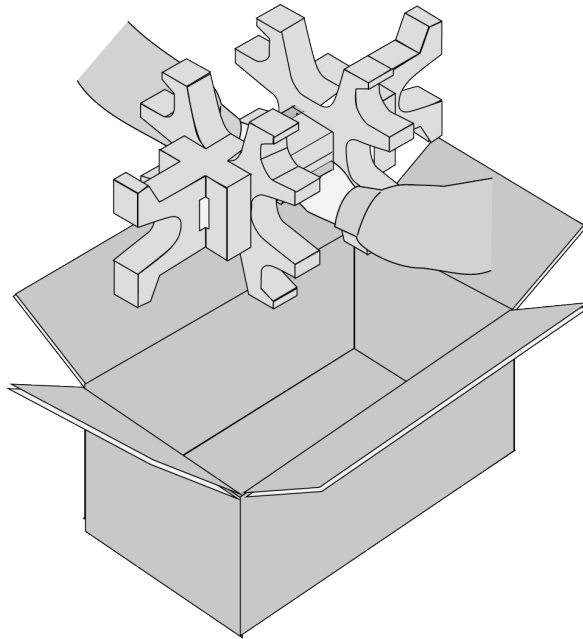

Figure 53. Removing the Power Supply from the Shipping Box
3. Lift the power supply from the shipping box and place it on a level, secure table. Refer to Figure 53 on page 113.